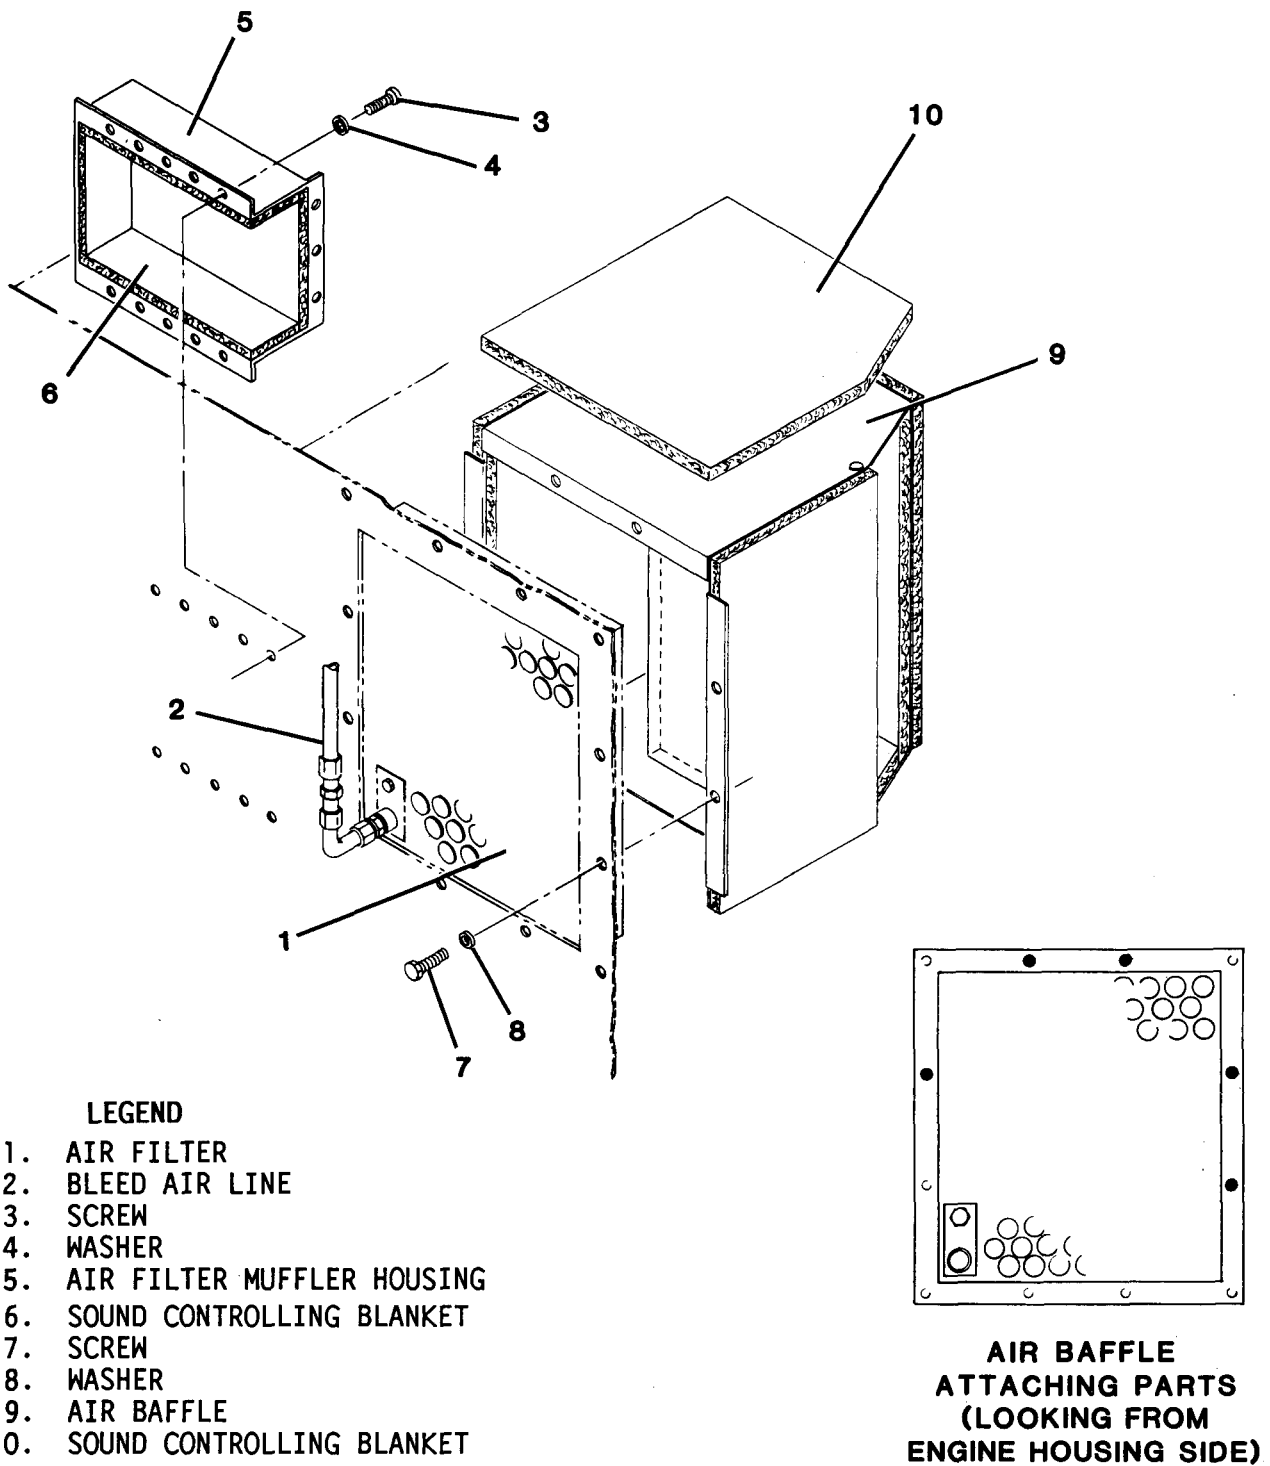

Figure 4-12. Air Filter, Air Filter Muffler Housing,
(1) Connect bleed air line (3) to bleed air connector (1) and tighten securely.
(2) Connect bleed air line (3) to air cleaner (5) and tighten securely.
(3) Install engine housing access cover and secure with turnlock fasteners.
**4-20. AIR FILTER.** Maintenance of the air filter (1, figure 4-12) consists of Inspection.
(1) Open control panel access door.
(2) Ensure that MASTER SWITCH is in OFF position.
(3) Close control panel access door.
Maintenance of the air filter muffler housing (5, figure 4-12) consists of inspection, replacement, and repair.
4-22. AIR BAFFLE. Maintenance of the air baffle (9, figure 4-12) consists of inspection, replacement, and repair.
(1) Disconnect battery cable plug connector from battery.
(2) Remove power cable from cable support.
(3) Open inlet air housing access door. Secure in open position.
(4) Loosen turnlock fasteners and remove engine housing access cover.
(5) Refer to inset in figure 4-12 and note location of air baffle attaching parts.
(6) Remove screws (7) and washers (8) that secure air baffle (9). Carefully remove air baffle from inlet air housing.
b. Inspection. Inspect air baffle for damage. Ensure that sound controlling blanket (10) is securely in place and undamaged.